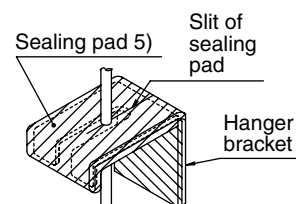

Fig. 6
- (5) Insulate the four hanger brackets with the sealing pad. (accessory 5) Insulate the hanger brackets so that the surface and edges of the hanger brackets cannot be seen. (Refer to Fig. 6)